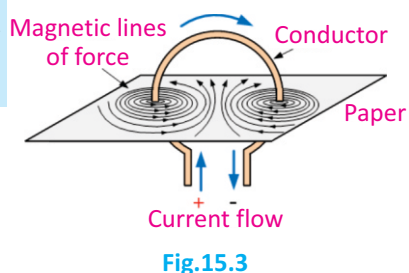

Fig.15.3
**Activity 15.1:** Take a straight piece of wire and bend it in the form of a single loop. Now pass it through a cardboard having two holes. Connect the ends of loop to a battery so that a current starts flowing through it (Fig.15.3). Now sprinkle some iron filings on the cardboard. Note the pattern of the iron filings formed on the cardboard. Do the magnetic field lines between the two parts of the loop resemble to that of the bar magnet?